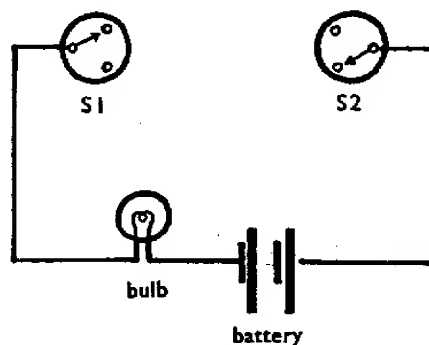

Fig. 265
The diagram in Fig. 265 shows part of a circuit often used to control one bulb from two switches each having three connections. You may have such an arrangement in your hall or staircase at home. Can you complete this circuit and explain how it operates? (11)